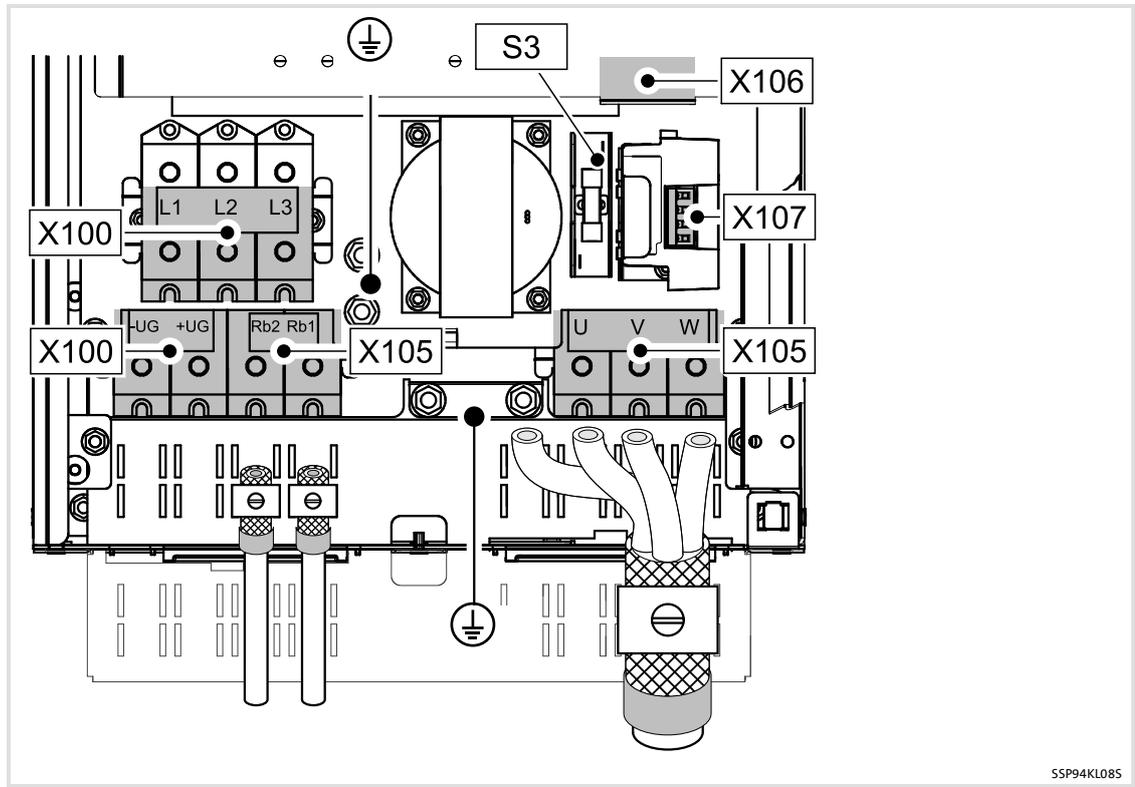

Fig. 3-26 Arrangement of the power connections
- ▶ If the S3 fuse on the "Soft charge" connecting board fails, the fans do not work. (📖 Fig. 3-26). This causes the devices to switch off due to excess temperature.